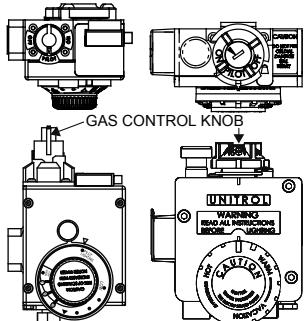

Figure 1
- Turn the water heater gas control knob to "off" and allow the burner area to cool completely, approximately 15 minutes, see Figure 1.